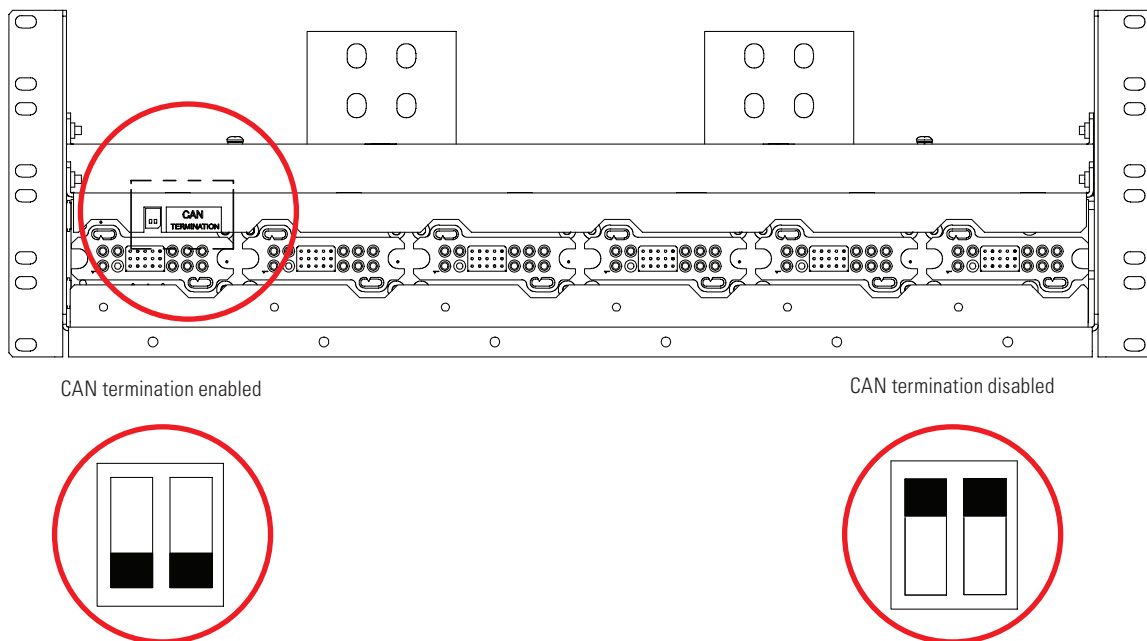
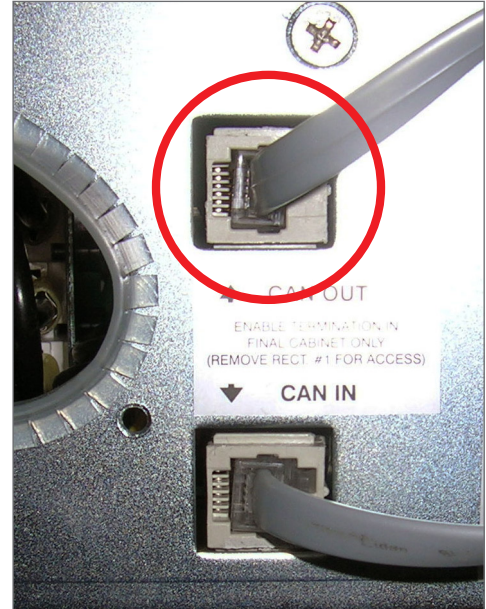

Figure 43: CAN bus termination
Figure 44: CAN IN and CAN OUT connections
The CAN bus provides a communication path between the controller and rectifier modules. In the power system, the CAN bus cabling is daisy chained from the Cordex® HP L-ADIO low-voltage smart peripheral, to the top rectifier shelf. The cable is then daisy chained from the top rectifier shelf, to lower rectifier shelves, in sequence, see Figure 44. At the last rectifier shelf, termination is enabled, see Figure 43.
2. Flip the DIP switches from Termination Enabled to Termination Disabled; see Figure 43.
4. Connect the CAN bus cable to the CAN OUT connector of the top rectifier shelf of the expansion power system; see Figure 44.